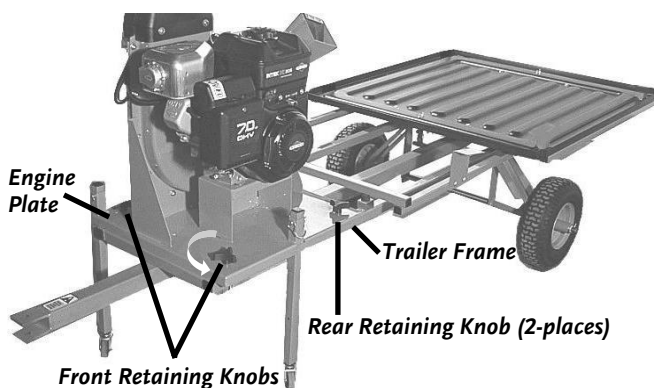

Figure 48
4. Remove (turn counterclockwise) the two (2) Rear Retaining Knobs holding the Engine Plate to the Trailer Frame (**Figure 48**).
5. Hold the Trailer Tongue and remove the two (2) Front Retaining Knobs (**Figure 48**), thus preventing the Trailer from falling when you remove the last Knob.